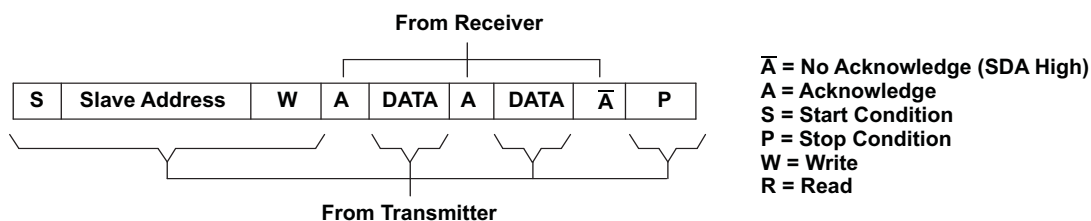
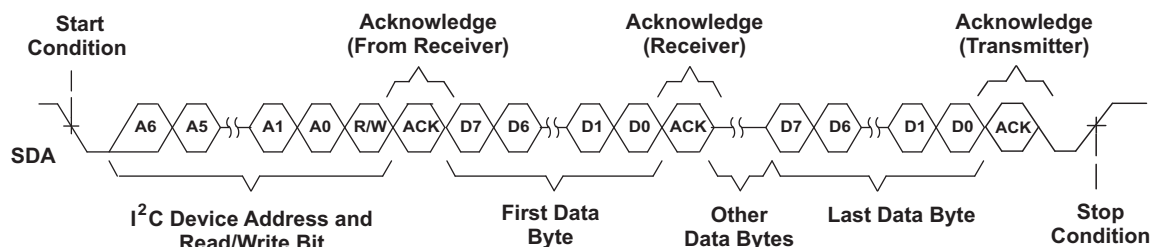
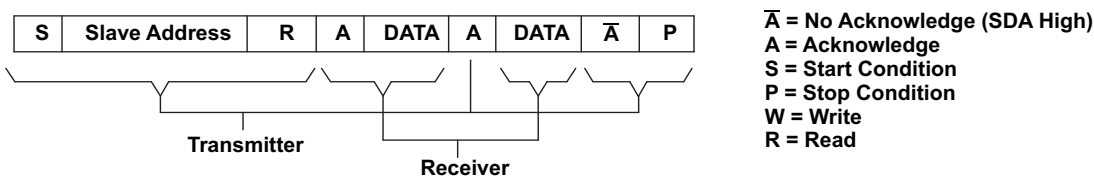
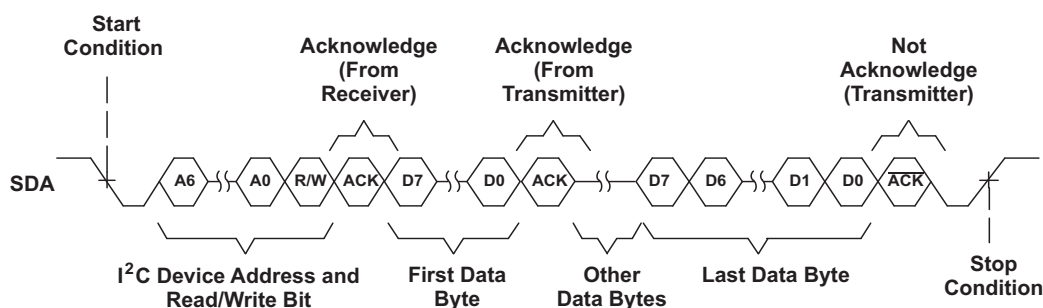

Figure 74. I²C Write Cycle
Figure 75. Multiple Byte Write Transfer
Figure 76. I²C Read Cycle
Figure 77. Multiple Byte Read Transfer
During a write cycle, the transmitting device must not drive the SDA signal line during the acknowledge cycle, so that the receiving device may drive the SDA signal low. After each byte transfer following the address byte, the receiving device pulls the SDA line low for one SCL clock cycle. A stop condition is initiated by the transmitting device after the last byte is transferred. An example of a write cycle can be found in Figure 74 and Figure 75. Note that the THS7353 does not allow multiple write transfers to occur. See example section, Writing to the THS7353 for more information.
During a read cycle, the slave receiver acknowledges the initial address byte if it decodes the address as its address. Following this initial acknowledge by the slave, the master device becomes a receiver and acknowledges data bytes sent by the slave. When the master has received all of the requested data bytes from the slave, the not acknowledge (A) condition is initiated by the master by keeping the SDA signal high just before it asserts the stop (P) condition. This sequence terminates a read cycle as shown in Figure 76 and Figure 77. Note that the THS7353 does not allow multiple read transfers to occur. See example section, Reading from the THS7353 for more information.
The THS7353 operates using only a single byte transfer protocol similar to Figure 74 and Figure 76. The internal subaddress registers and the functionality of each are found in Table 2. When writing to the device, it is required to send one byte of data to the corresponding internal subaddress. If control of all three channels is desired, then the master has to cycle through all the subaddresses (channels) one at a time, see the example section, Writing to the THS7353 for the proper procedure of writing to the THS7353.